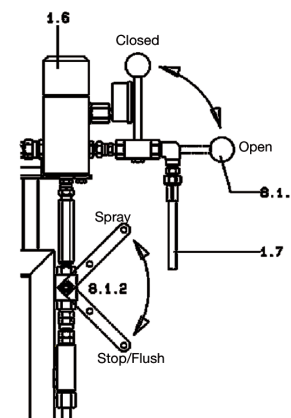
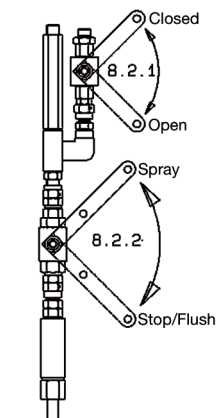

Figure 8.3.1
Figure 8.3.2
- Set the lever (standard mixer: Fig. 8.3.1, Pos. 8.1.2 / external mixer: Fig. 8.3.2, Pos. 8.2.2) to "STOP / FLUSH".
- Shift the lever (Fig. 8.3.2, Pos. 8.2.1) to position "CLOSED".